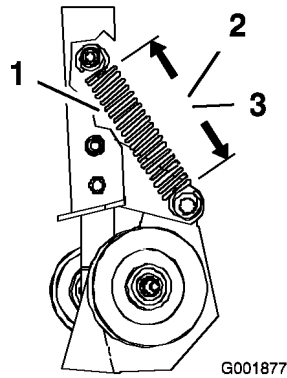
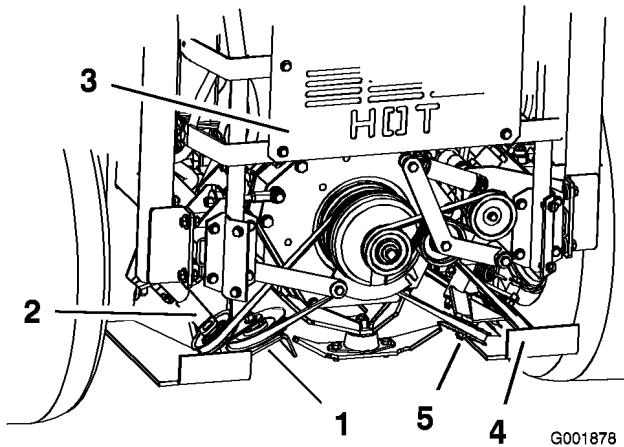

Figure 64
Figure 65
3. Measure the length of the spring. Check to make sure the coils of the spring on the spring-loaded idler pulley measures as listed below (Figure 64 and Figure 65).
- Left spring measurement: $5\text{-}3/4 \pm 1/8$ inch (14.6 ± 0.3 cm) (Figure 64).
- Right spring measurement: $5\text{-}1/2 \pm 1/8$ inch (14.0 ± 0.3 cm) (Figure 64).
4. If the spring does not have the correct measurement, loosen the nut holding the adjustable idler pulley so it can move up and down in the slot (Figure 65).
5. Relieve the pressure on the spring-loaded idler pulley (Figure 65).
6. Position the adjustable pulley lower in the slot and tighten the nut (Figure 65).
7. Check to make sure the coils of the spring on the spring-loaded idler pulley have the correct measurement (Figure 64).